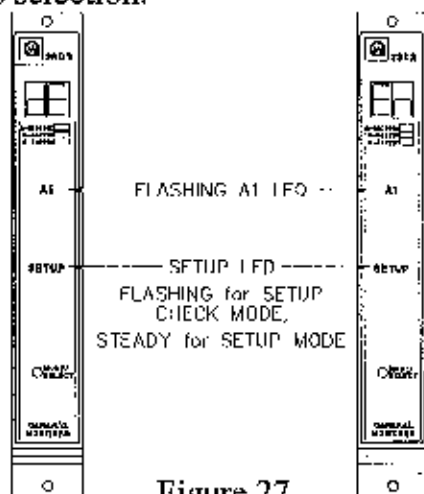

Figure 27
- Next, the **A1** LED on the front panel will be flashing and the Energized (En), De-energized (dE) option will be displayed (figure 27). The display will indicate the current selection, (**En** or **dE**). Press the Mode/Select switch until the desired option is displayed. De-Energized is the factory default for this selection.